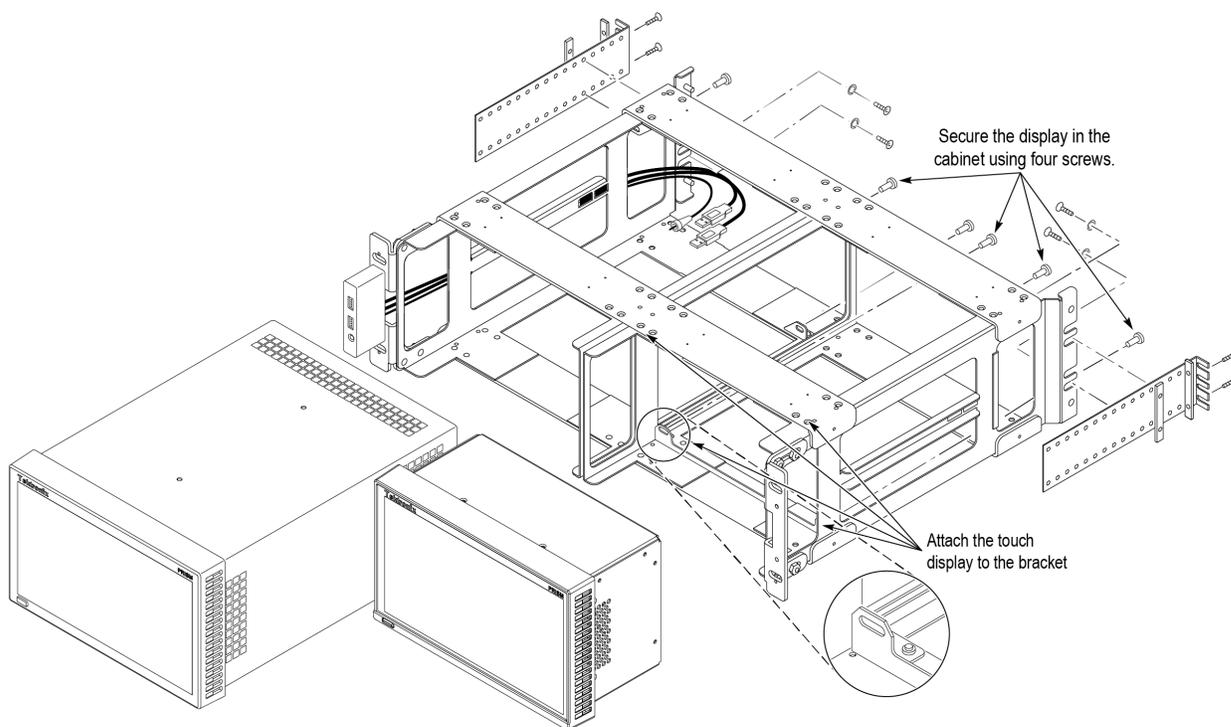
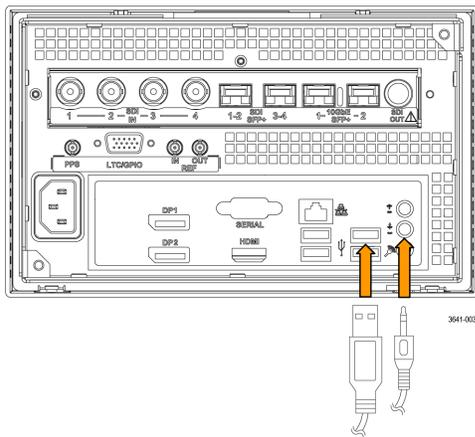
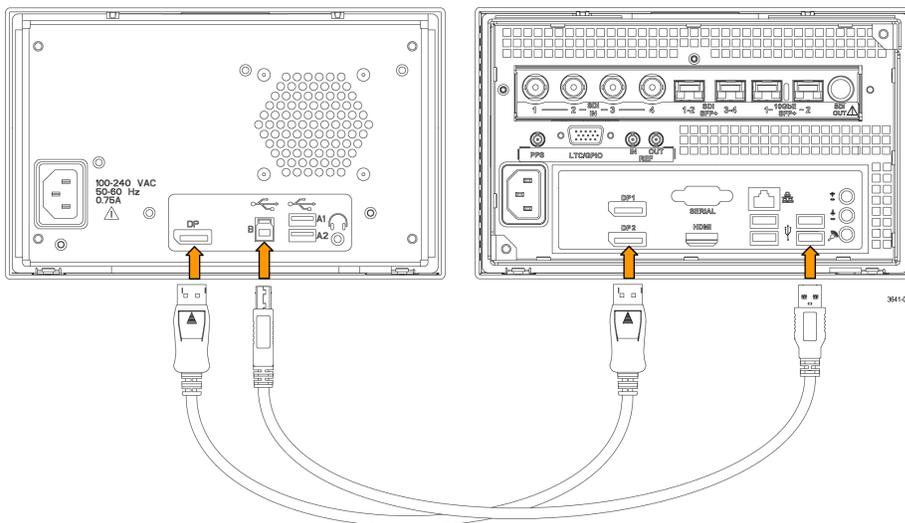

Figure 4: Installing the PRISM waveform monitor (not included) and extended touch display into the rack cabinet
Figure 5: Connecting the cabinet USB and audio cables (use any USB port)
Figure 6: Connect the PRISM waveform monitor to the extended touch display
1. Install the PRISM waveform monitor in the rack cabinet. (See Figure 4.)
- b. Use a screwdriver with a TORX T-15 tip to secure the instrument in the rack cabinet with two 10-32 X 0.625 screws (item 3 in Table 4). The screws attach to the top right and bottom left holes in the instrument chassis as viewed from the rear.
- c. Connect the cable from the USB port and headphone jack on the rack cabinet to the rear of the instrument. (See Figure 5.)
2. Install the extended touch display in the right slot of the rack cabinet as viewed from the front. (See Figure 4.)
- b. Use a screwdriver with a TORX T-15 tip to secure the extended display in the rack cabinet with four 10-32 X 0.625 screws (item 3 in Table 4). The screws attach to all four rear corners of the instrument.
- c. Connect the display and USB cable (included) from the rear panel of the PRISM waveform monitor to the rear panel of the extended touch display. The display cable must be connected from DisplayPort2 (bottom port) on the PRISM waveform monitor to the DisplayPort on the extended touch display. The USB cable can be connected to any USB port on the PRISM waveform monitor. (See Figure 6.)
1. Connect the PRISM MPI2 waveform monitor to the extended touch display. (See Figure 6.)